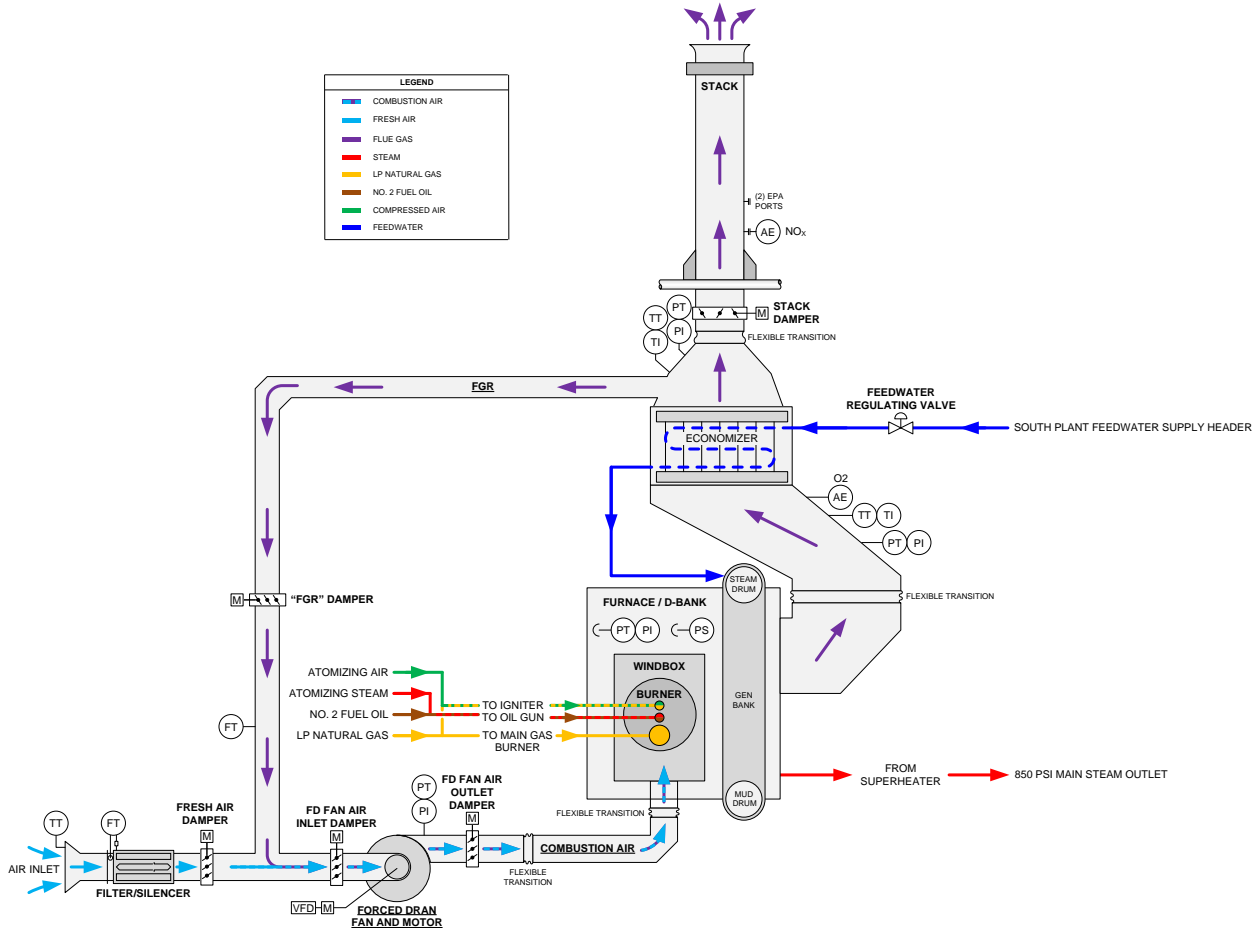

Figure 2 – Gas Boilers CA&FG Flow Path
The gas boilers are forced draft boilers consisting of a combustion air system and a flue gas system. Within the combustion air and flue gas (CA&FG) primary flow path, fuel is mixed with air supplied by the forced draft (FD) fan and burns. The result are combustion flue gasses, which flow over the boiler tubes, through the economizer and exit via the stack. The CA&FG flow path for the gas boilers is shown in Figure 2.